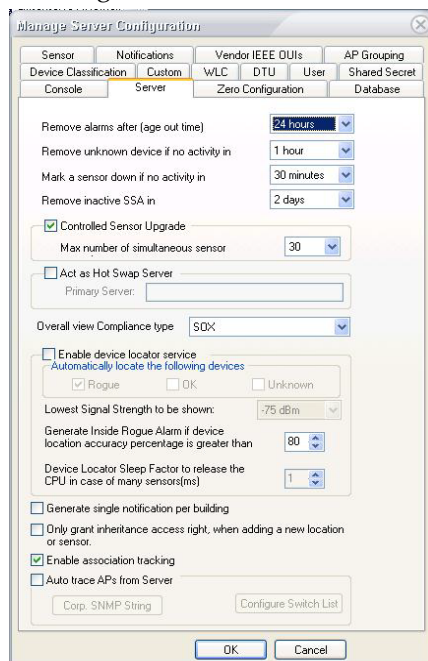

Figure 13-2: Configuring Server settings
- 1) From the Manage Server Configuration screen, click the **Server** tab. The Manage Server Configuration screen refreshes. See Figure 13-2.